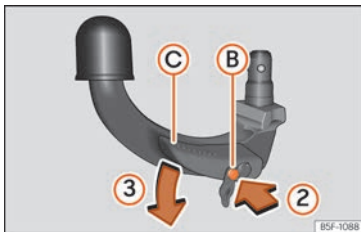

Fig. 293 Step 2.
- Press the release bolt (B) in the direction of arrow ②, and at the same time press lever (C) in the direction of arrow ③ as far as it will go »» Fig. 293.